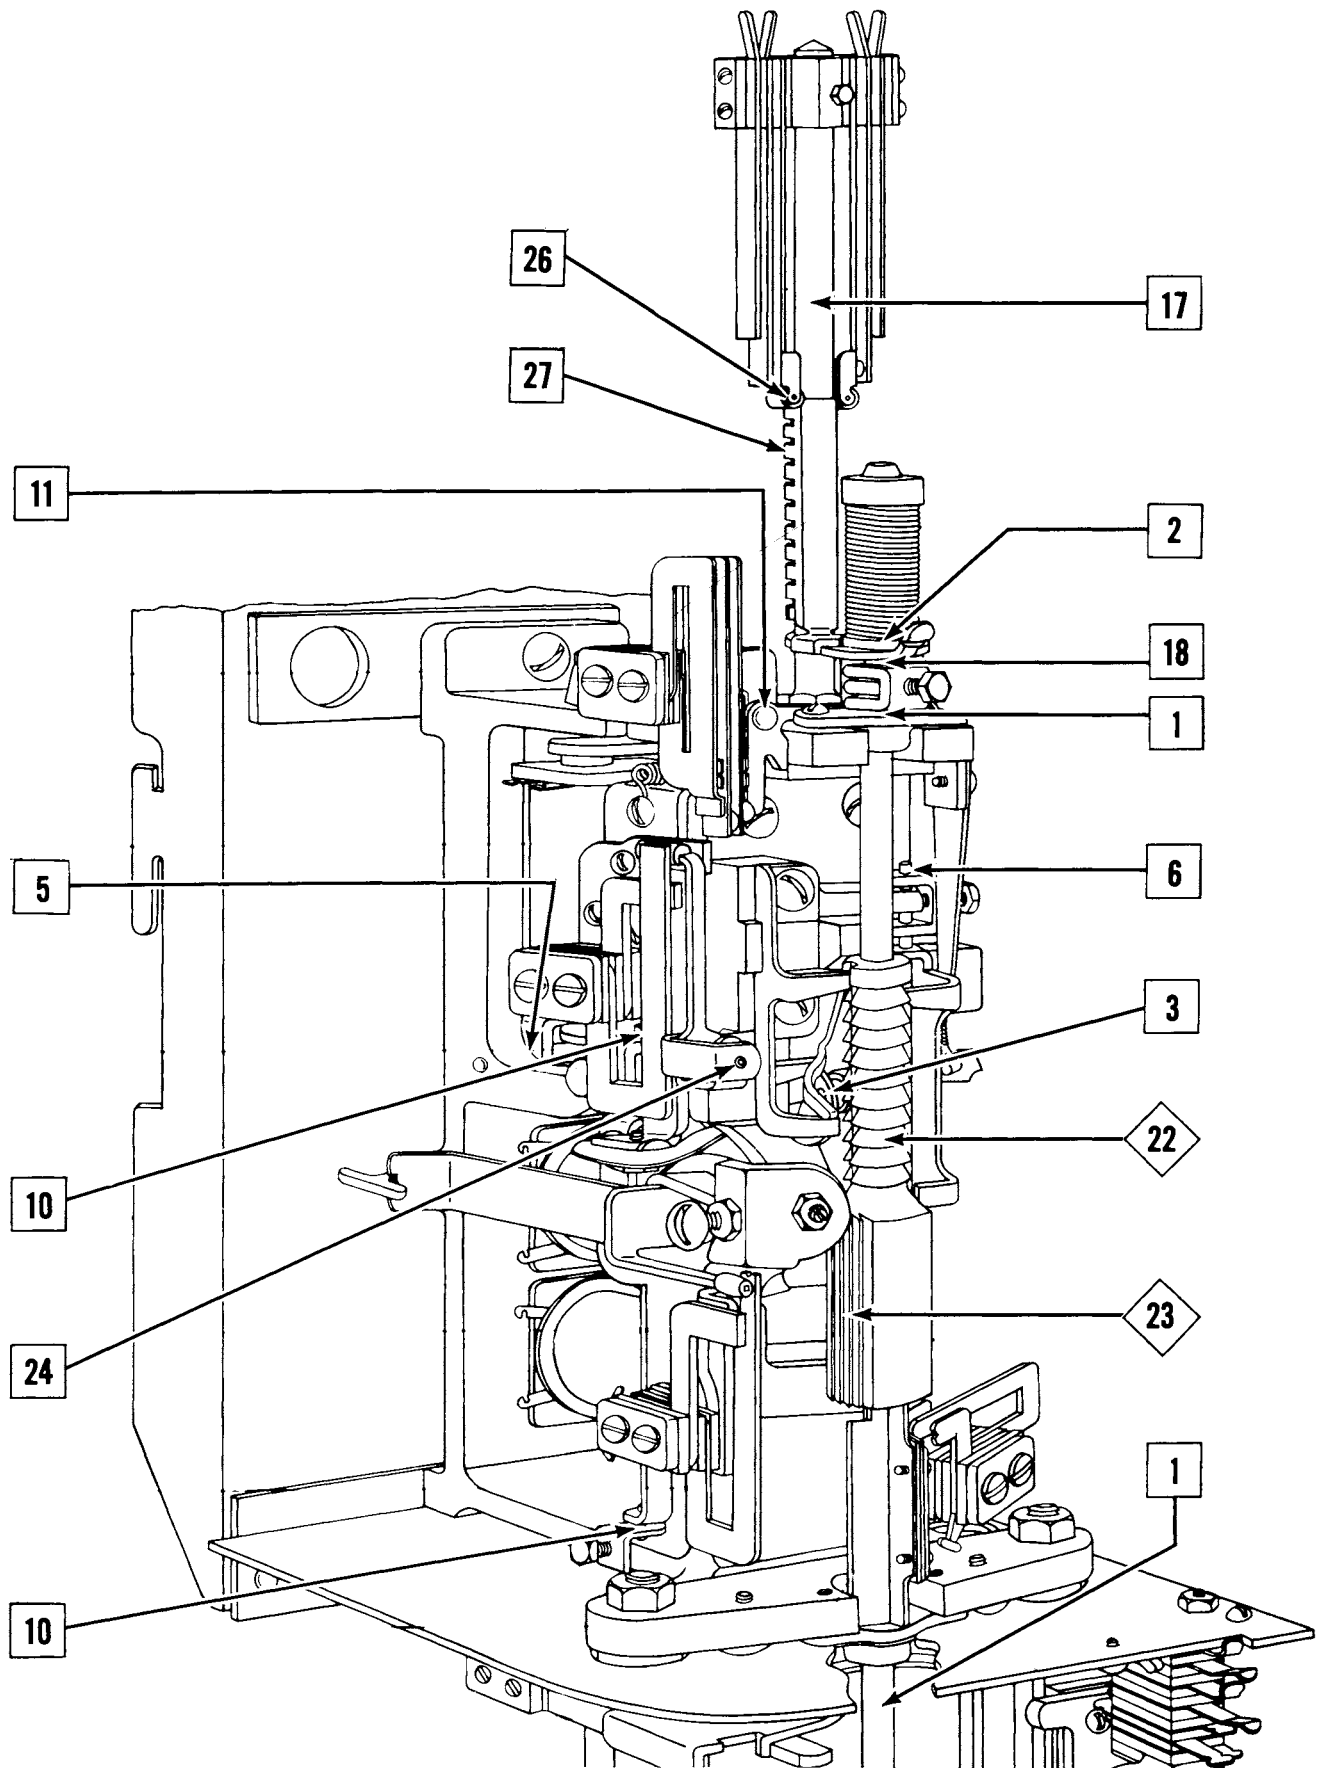

Figure 1. Strowger switch lubrication (left front view).
**1** The upper part of each of the bearing surfaces of the shaft (see figure 1).
**2** The shaft extension sleeve, just above the shaft spring bracket (see figure 1).
**3** The surface of the vertical pawl which is between the pawl bearing lugs and the bearing collars (see figures 1 and 2).
**5** Each of the vertical armature bearings, at the angle formed by the outer surfaces of the two armature bearing lugs and the bearing pin (see figures 1 and 2).
**6** The double dog bearing pin, just above the upper bearing lug of the double dog (see figure 1).
- 10** Each of the rotary armature bearings at the angle formed by the outer surfaces of the two armature bearing lugs and the bearing pin (see figure 1).
- 11** The surface of the off-normal lever bearing above the rivet, at the angle formed by the lever and bracket (figure 1). CAUTION: Be careful not to put excess oil on bearing. Wipe all oil from the lever and buffer so that no oil is allowed on the springs and contacts. Check the contacts for oil and wash with chlorothene (allow to dry with contacts open).
- 17** The surface of the normal post which contacts the shaft spring bracket (see figure 1).
- 18** The surface on the bottom of the spring bracket which contacts the normal pin clamp (see figure 1).
- 22** All the teeth in the vertical hub from the stationary dog groove to the notches on which the tip of the double dog rides (see figure 1).
- 24** The bell crank bearing pin at each bearing of the bell crank (see figure 1).
- 26** The roller spring bearings (see figure 1).
- 27** The operating teeth on the edge of the cam which is contacted by the roller (see figure 1).